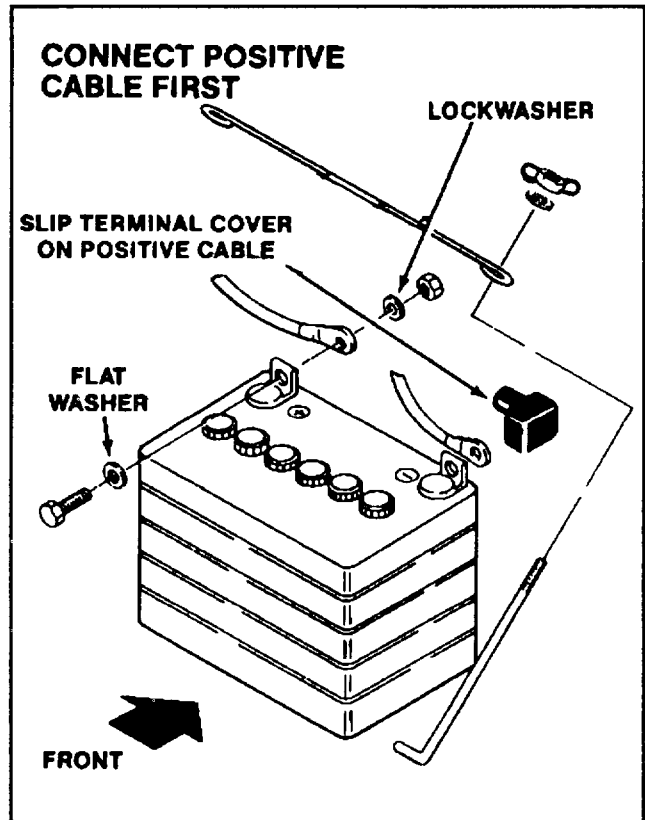

FIG. 4 - Battery Installation
1. Refer to Figure 4 and remove battery from tractor.
5. Install battery in tractor making sure terminal posts are positioned properly (Fig. 4). Install battery hold down assembly. Tighten nuts only enough to keep battery from moving. **DO NOT OVERTIGHTEN.**
6. Reinstall battery cables as shown in Figure 4. Grease all exposed metal surfaces of battery terminals.